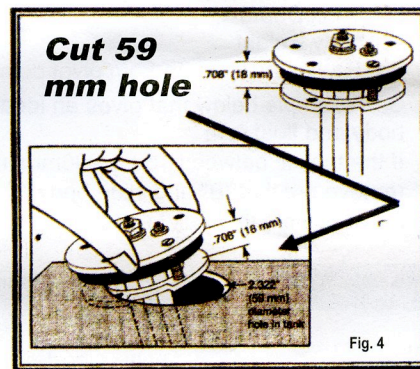

Fig. 4
3. Refer to Fig. 4 and slip the fuel sender assembly into the 59 mm hole turning until it goes into the tank.